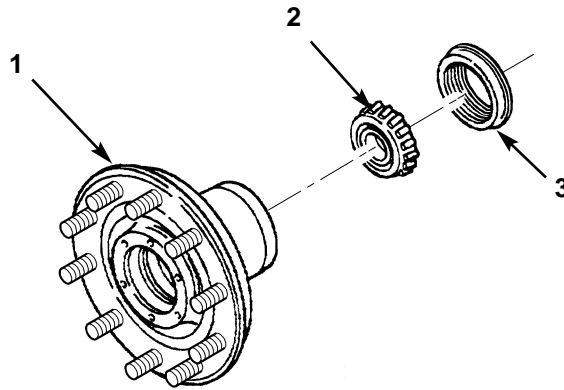

Figure 23. Removing Bearing Seal and Inner Bearing Cone.
9. Using suitable drift and hammer, remove seal (figure 23, item 3) and inner bearing cone (figure 23, item 2) from front hub (figure 23, item 1). Discard seal (figure 23, item 3) and front hub (figure 23, item 1).